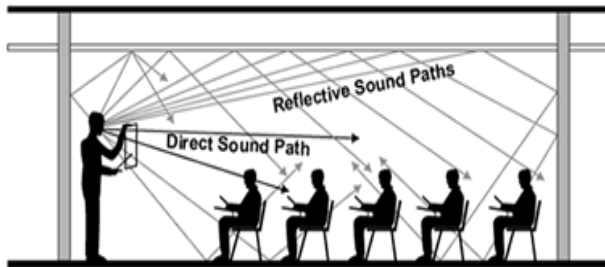

Figure 2
- 1) **Reverberation Time:** It is the time required for the sound intensity to fall below one millionth of its original intensity once the source of sound is cut off (figure 2). It has to be maintained at optimum value. For a hall of $10,000 \text{ m}^3$, reverberation period is between 1.0 to 1.5 seconds and 1.5